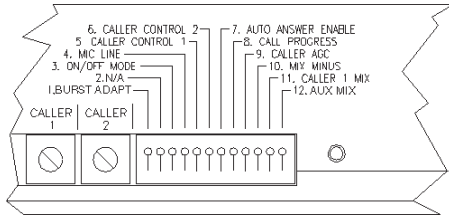

Figure 15. Digital hybrid dip switches
As shipped from the factory, the digital hybrid automatic mix-minus function is disabled. To enable the digital hybrid’s internal automatic mix-minus, switch dip switch 10 (See Figure 15, left.) behind the digital hybrid front access panel to the ON (UP) position.
In some applications, it may be desirable to adapt the hybrid with a white-noise burst, rather than allowing the hybrid to adapt automatically to line conditions. To enable this feature, dip switch 1 behind the digital hybrid’s front panel (See Figure 15, above, left.) is used to enable/disable the noise burst (Table 1, below).